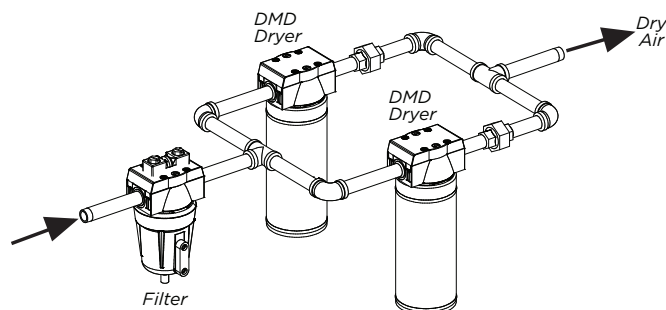

Figure 2.2
- Multiple Dryers for Higher Capacities - Multiple dryers in parallel (see Figure 2.2) can be used to increase capacity beyond that available with a single dryer. All the dryers should be the
same model. It is not necessary to provide any mechanism to balance flows between the dryers. Installing prefilters upstream is preferred (for pressure-drop balance and cost). Size prefilters for the combined flow. Figure 2.2 does not show valves that could be used to isolate one dryer; valves are not recommended, but if used, identical valves and configuration must be used for all dryers.